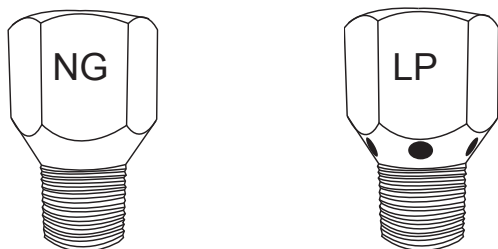

Fig 41. Natural (NG) orifice on left; LP with vent holes on right.
Main Burner Orifice - All fire features **MUST** have a main burner orifice installed on the outlet side of the gas valve. An orifice limits the amount of gas flow to the burner to ensure the flame is a safe and reasonable height to not pose a risk to people or property. The drawings below show the difference between a Natural gas (NG) and Propane (LP) orifice. Because (LP) gas does not burn as clean as (NG) and requires ventilation holes at the base of the orifice to provide a cleaner flame. See Fig. 41.